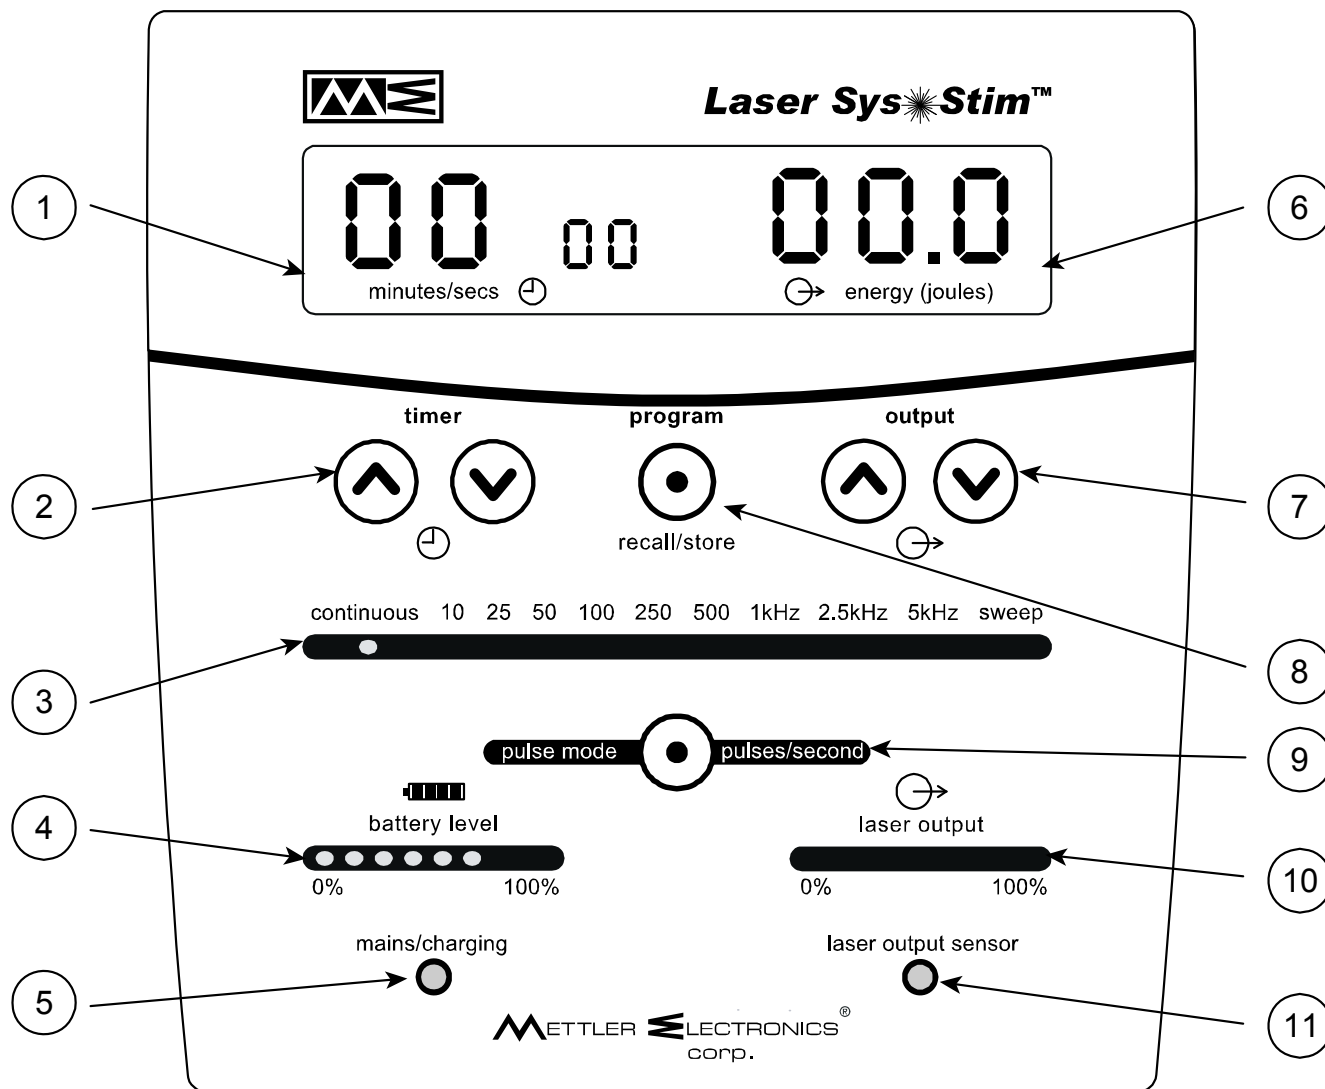

Figure 2.1—Controls and Indicators on the Top Panel
- Treatment time: this 4 digit display is used to set the treatment time, and during treatment the display counts down to show the time remaining, see figure 2.1(1).
- Treatment energy: this 3 digit numeric display is used to set the energy dosage for the treatment, see figure 2.1(6).
- Pulse mode: this 11 position display shows the selected pulse mode frequency. If SWEEP is selected, during the treatment the display will show the current pulse mode, see figure 2.1(3).
- Laser output: this bargraph display shows the amount of incident laser energy measured by the LASER OUTPUT SENSOR, the 100% level indicates the laser is at 100% i.e. 80mW. See figure 2.1(10).
- Battery level: this bargraph display shows the battery level range 0 to 100%, see figure 2.1(4).
This sensor is used to display and verify the output from the laser applicator when laser energy is being emitted. Note: Ensure measurement is performed using Continuous Pulse Mode, figure 2.1(11). Please note: This sensor does not work with the cluster applicator.
- Timer “Up” and “Down”: these two arrow keys are used to set the treatment time, which is displayed on the display above the keys, see figure 2.1(2).
- Output “Up” and “Down”: these two arrow keys are used to set the treatment dosage energy, which is displayed on the display above the keys, see figure 2.1(7).
- Pulse Mode: this key selects the Pulse mode which is displayed on the display above the key, pressing the key indexes the Pulse mode selection to the right, see figure 2.1(9).
- Program: this key selects the 0 to 9 available user programmable memories, allowing the practitioner to store and recall configurations. Pressing the key indexes through the memories, figure 2.1(8).
This indicator is illuminated when the mains supply is applied to the unit. This will enable the battery to be charged during use, figure 2.1(5).